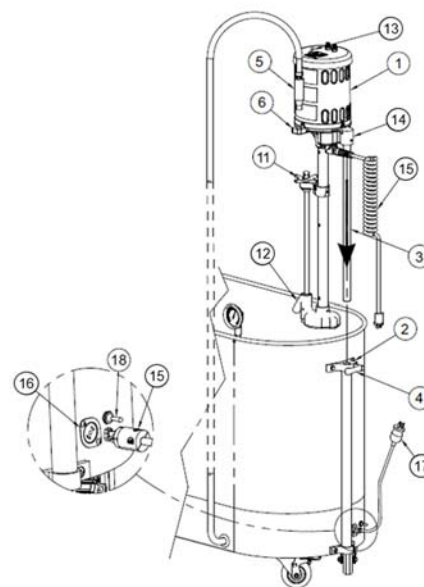

Figure 2: Whirlpool with -SDP option
- For models with a separate drain pump (-SDP, see Figure 2):
2. Loosen handle (4) then lower turbine support rod (3) into turbine support tube (2) of tub. Tighten handle (4) when turbine is at desired height.
3. Place discharge nozzle (5) into storage socket (6). For –SDP only (Figure 2): water will flow through hose if discharge nozzle (5) is lower than water level.
4. Turn the pressure control valve handle (11) fully clockwise, then fully counterclockwise to completely lubricate the plunger assembly.
5. For Whirlpools with –SDP (Figure 2): Insert electrical cord twist-lock plug (15) into socket (16) and turn clockwise a quarter turn to lock in place. Ensure plug cover is firmly against the receptacle (16).
6. Turn the turbine power switch (13) off.
Whirlpools with separate drain pump (Figure 2)